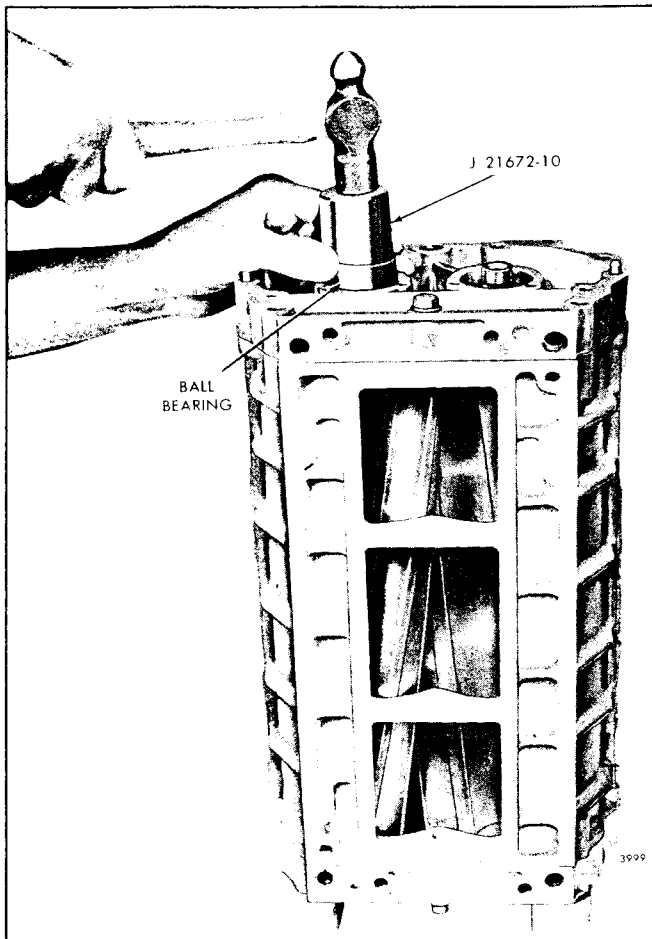

Fig. 16 - Installing Ball Bearings on Rotor Shafts and in Front End Plate (Former Blower)
- b. Place installer J 21672-10 on top of the bearing and tap the bearing straight on the shaft and into the front end plate as shown in Fig. 16.